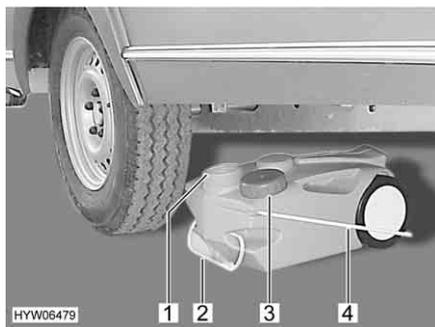

Fig. 183 Waste water tank, mobile
- Use the cap (Fig. 183,3) to close the opening of the waste water tank (Fig. 183,1).
- Use the handle (Fig. 183,2) to pull out the waste water tank.
- Fold the carrying handle (Fig. 183,4) up and upright the waste water tank.